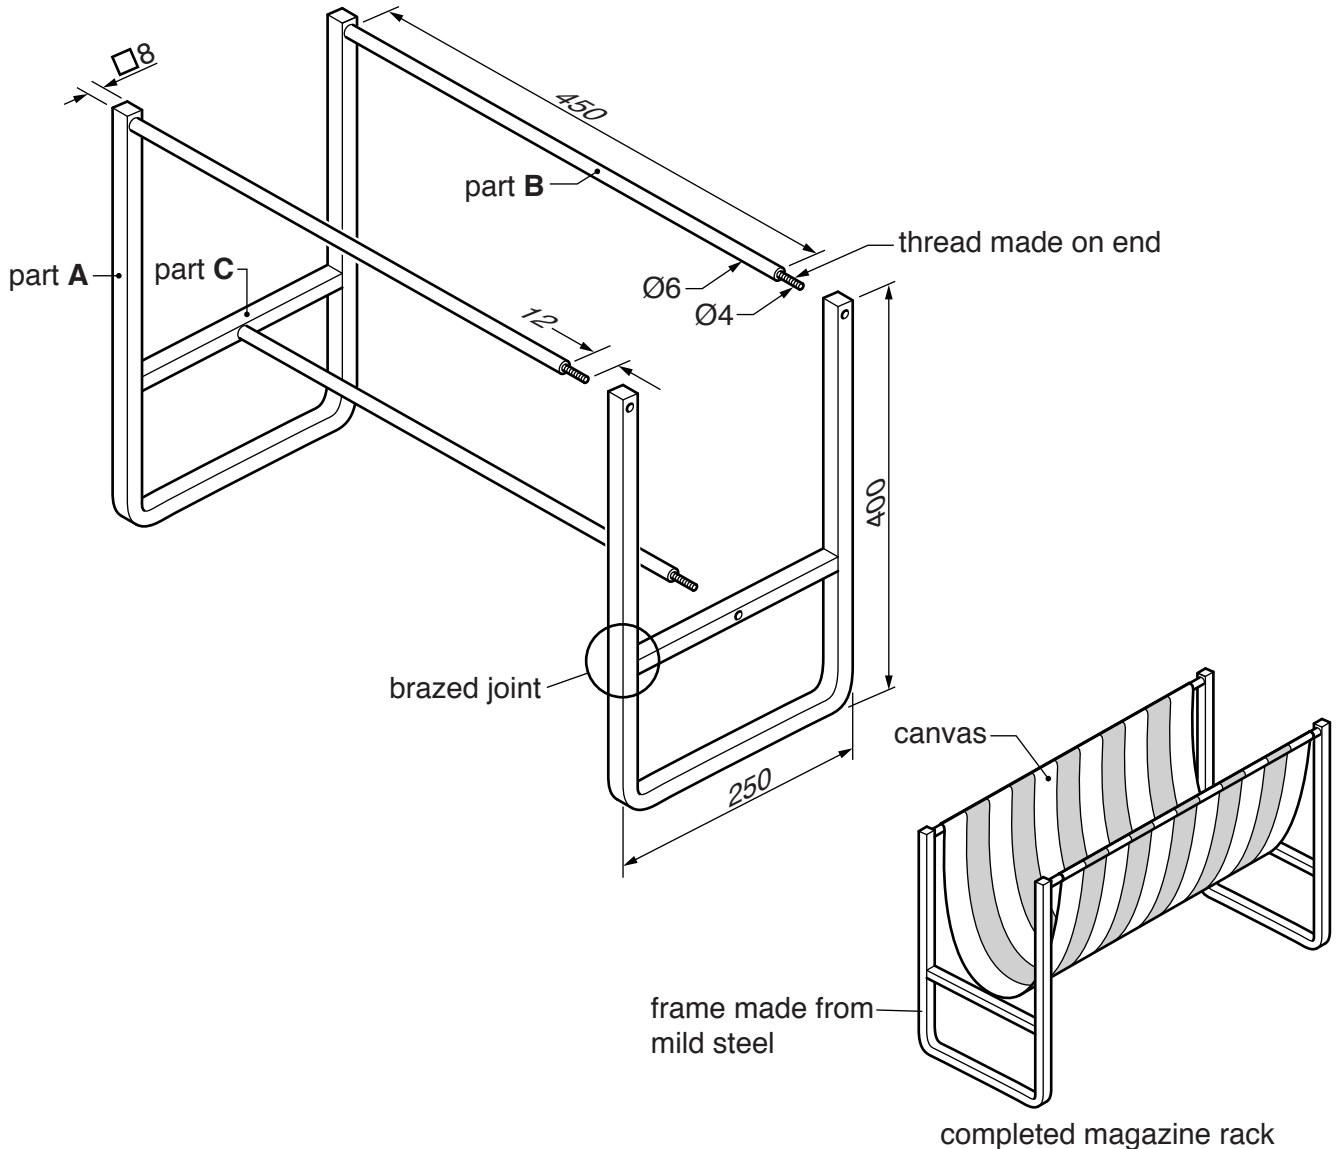

Fig. 1
- 1 Fig. 1 gives details about a magazine rack which is to be made in a school workshop.